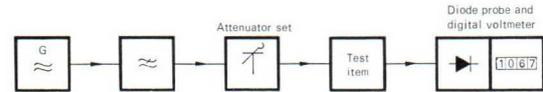
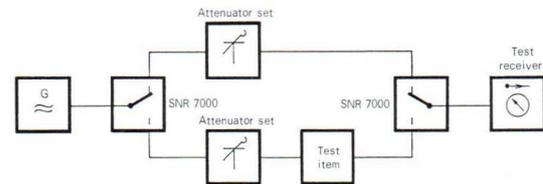
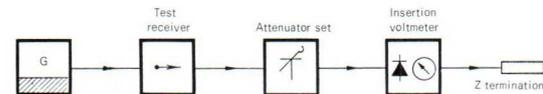
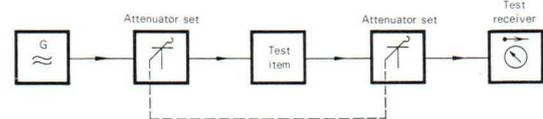

Fig. 1 Test setup with diode probe and digital voltmeter for gain and attenuation measurements at high test voltages
Fig. 2 Test setup with reference attenuator for measuring attenuation and gain with a high degree of accuracy
Fig. 3 Test setup for determining the noise figure of a receiver
Fig. 4 Setup for measuring the linearity of two-port networks
**Attenuator sets** are two-port networks with adjustable, calibrated attenuation and the same constant characteristic impedance at both input and output. They are used for gain and attenuation measurements (Figs 1 and 2), for determining the noise figure of a receiver (Fig. 3), for linearity measurements (with an attenuator connected before and after the test item; Fig. 4) or as reference attenuator (e.g. the highly accurate DPVP; see Fig. 2). In addition, accurately-known small voltages are obtainable with the aid of an attenuator set when a given, exactly determined input voltage is available. Their special construction has afforded a high degree of accuracy as well as a very wide frequency range.